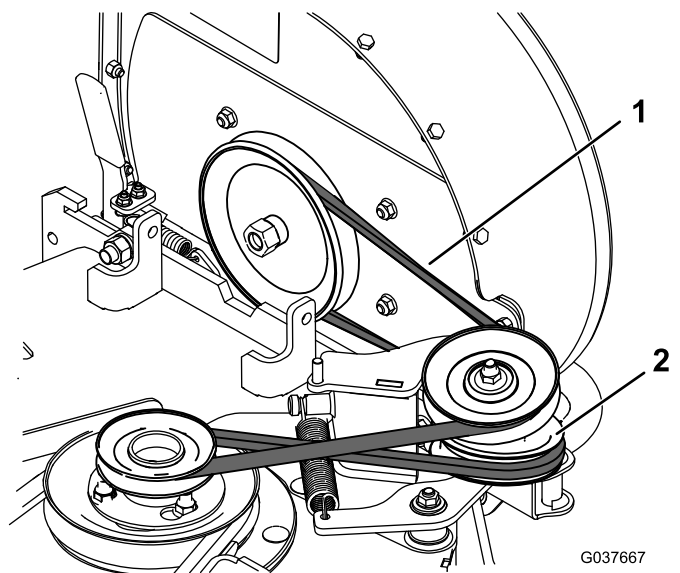

Figure 26
6. Pull back on the spring-loaded idler pulley to relieve the belt tension (Figure 26).
9. Install the belt around the blower and idler pulleys as shown in Figure 26.